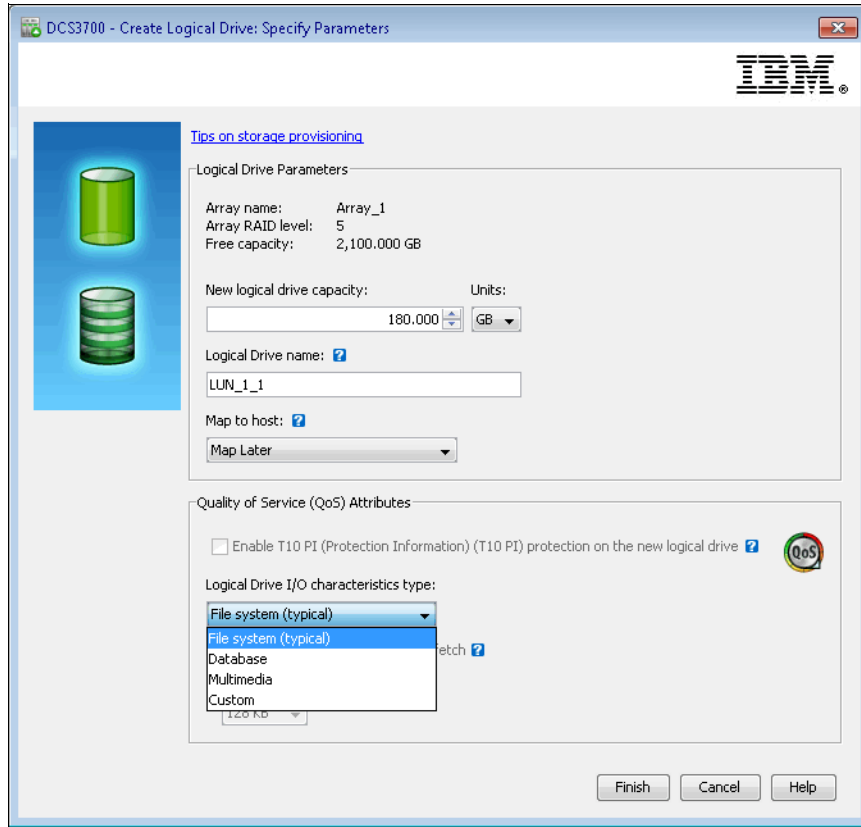

Figure 8-25 Specifying logical drive capacity, name, and I/O characteristic type
2. The Specify Capacity Parameters window opens, as shown in Figure 8-25.